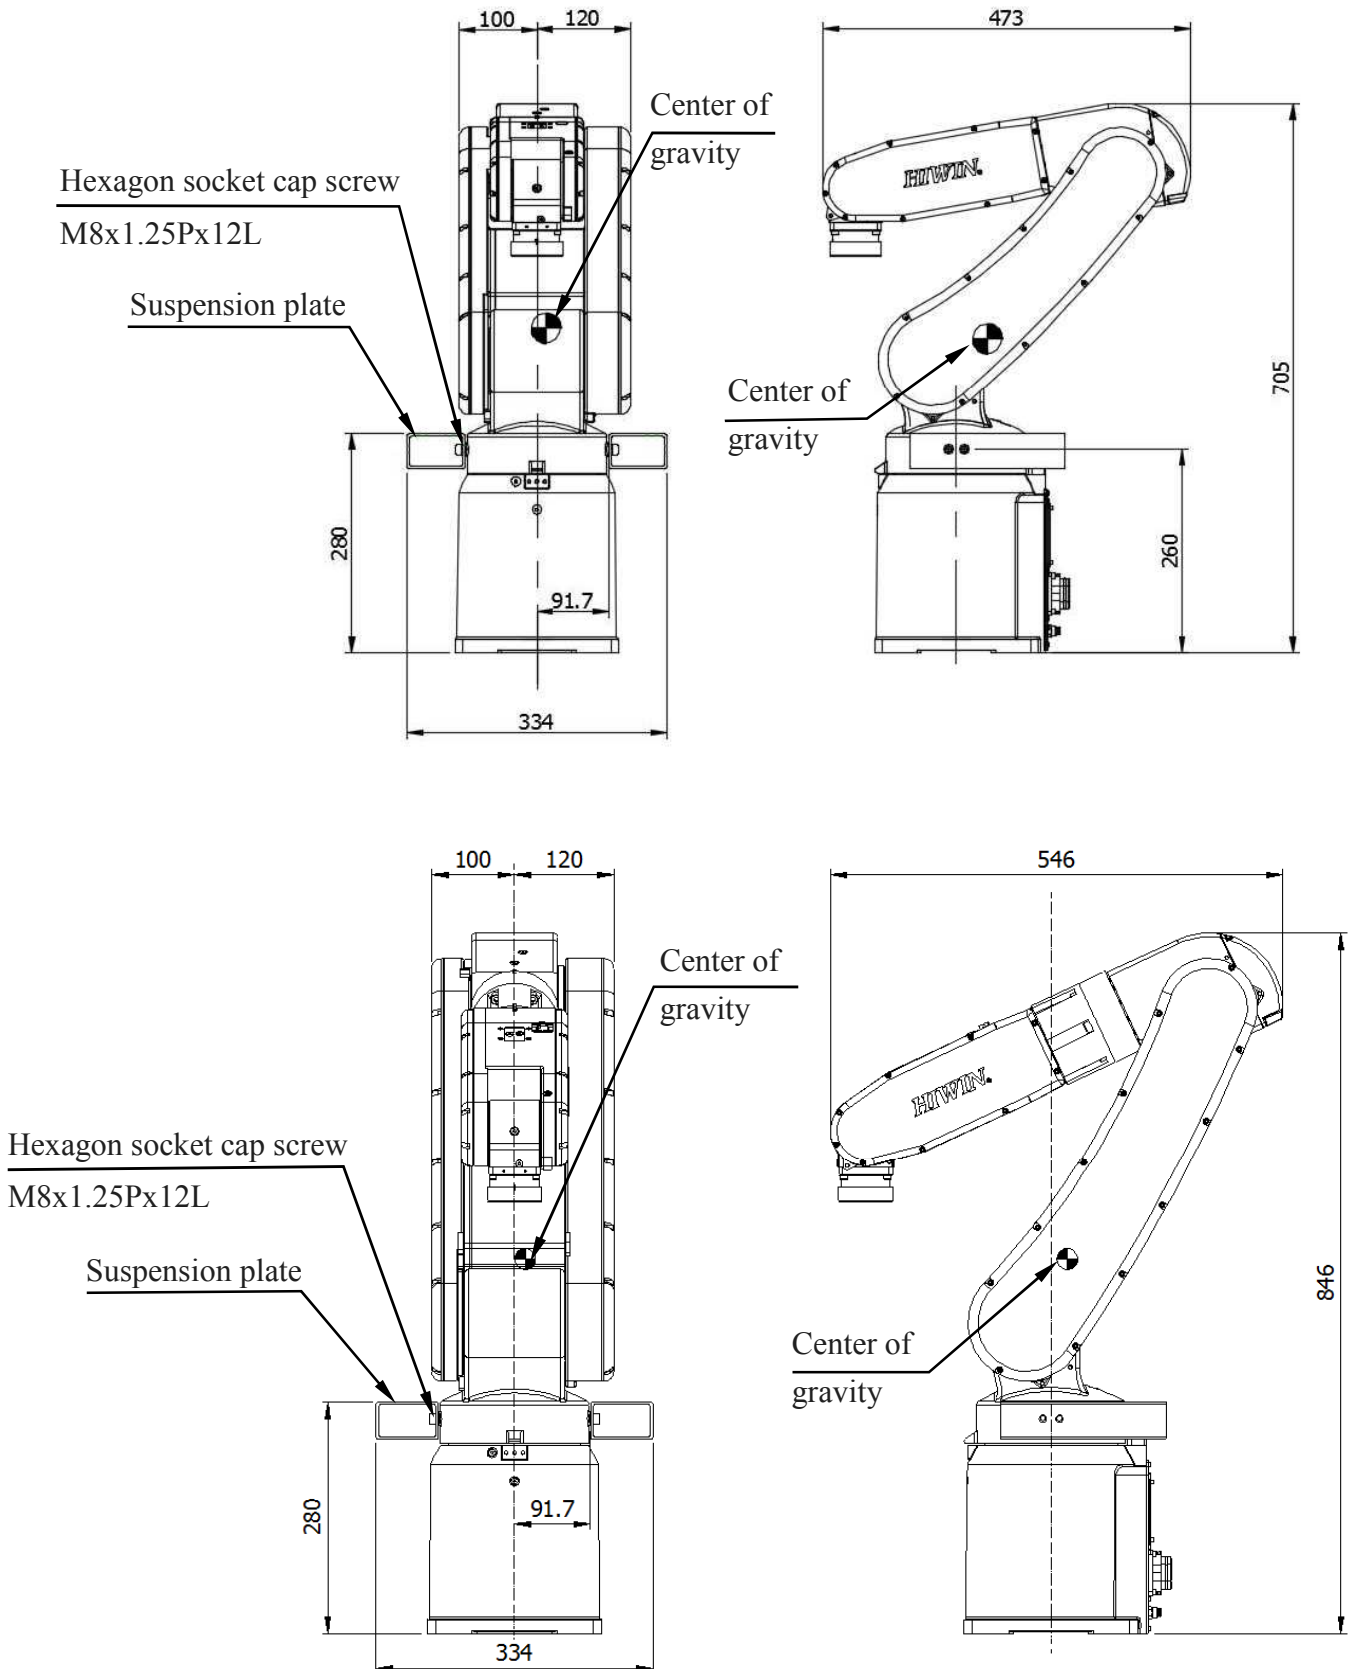
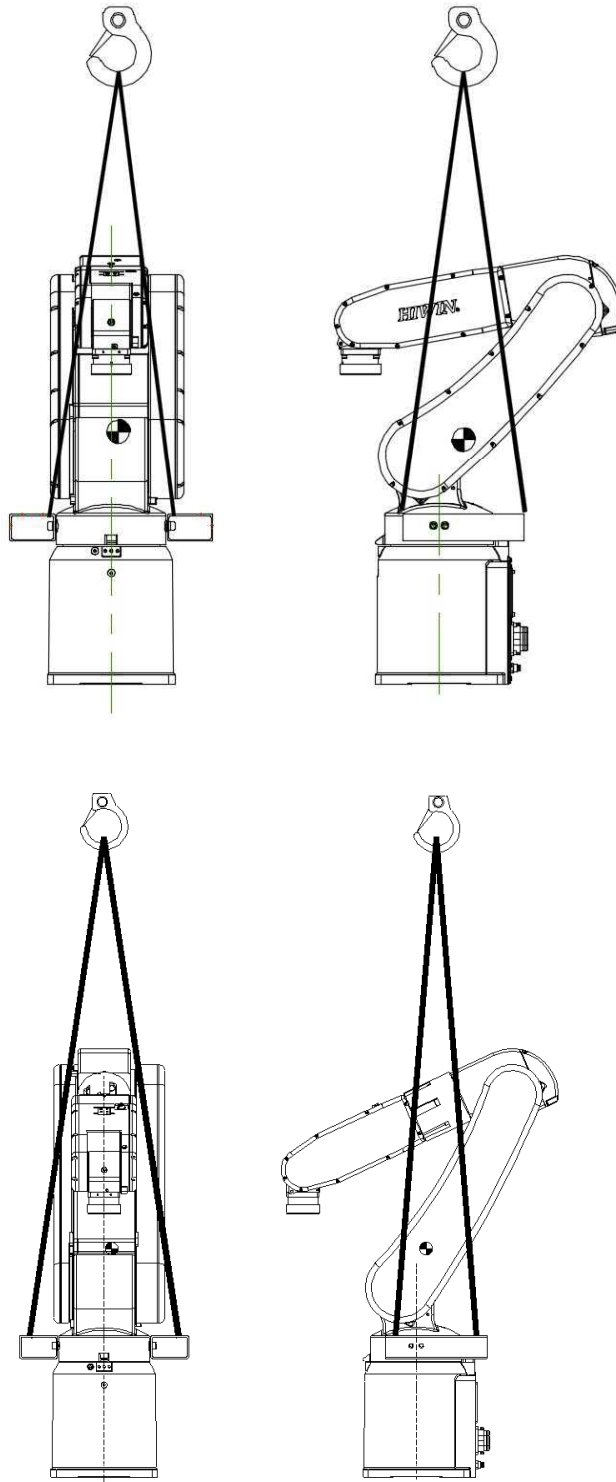

Figure 1-2
Figure 1-3 Crane lifting transportation
- Step2. Secure the suspension plate to the robot with four M8×1.25P×12L screws as shown in Figure 1-2. Make the sling go through the suspension plate to keep the center of gravity under the hanging point shown as Figure 1-3. Please ensure the robot is in stable condition to avoid overturning.